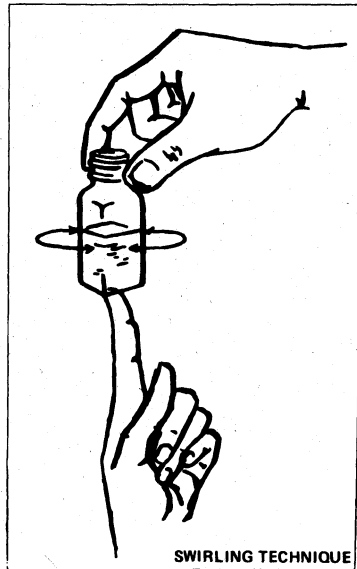

Figure 1
2. Fill a color viewing tube to the 5-mL mark with clear water. Place this tube in the top left opening of the color comparator (Untreated Sample Position in Figure 1).
5. Place the tube of prepared sample in the right top opening of the color comparator (Prepared Sample Position in Figure 1).
1. Fill one color viewing tube to the 5-mL mark with clear water. Place this tube in the top left opening of the color comparator (Untreated Sample Position in Figure 1).
4. Place the tube of prepared sample in the right top opening of the color comparator (Prepared Sample Position in Figure 1).
3. Place the tube of prepared sample in the right top opening of the color comparator (Prepared Sample Position in Figure 1).
4. Fill the other color viewing tube with a clear water sample, and place it in the left top opening of the color comparator (Untreated Sample Position in Figure 1).